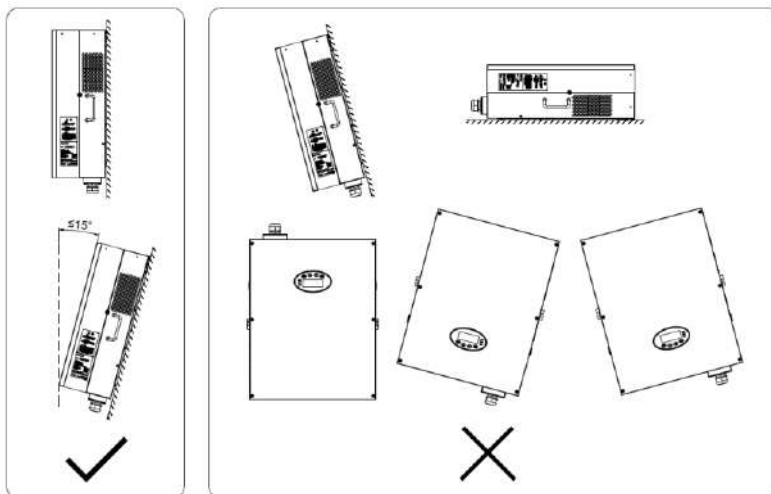

Fig 4.6 Installation position of the inverter
(4) The ambient temperature of installation should be -25°C – 60°C
(5) The installation site should be away from electronic devices which can generate strong electromagnetic interference
(6) The inverter should be installed on firm and solid surface eg wall surface and metal bracket
(7) The installation surface should be vertical to the horizontal line, as shown in Figure 4.6